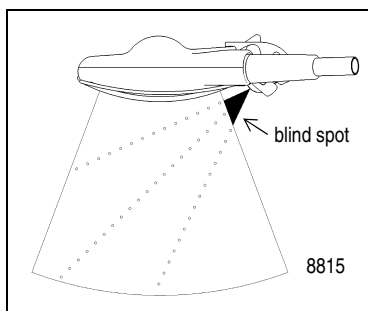

Fig. 7. Illustration showing the puncture line and blind spot (See 3rd “WARNING” on page 12)
The puncture line pattern is shown in Fig. 7. The distance between the guide channel of the needle guide to the first dot on the scan image puncture line is 12-15mm depending on which angle is chosen. The distance between the dots is 5mm.
The puncture line pattern is shown in Fig. 7. The distance between the needle channel of the needle guide to the first dot on the scan image puncture line is 12-15 mm depending on which angle is chosen. The distance between the dots is 5 mm.
*The 8515-S and 8815 transducers cannot monitor the first 1.2-1.5 cm of the puncture line (the blind spot, see Fig. 7.). Extra care should be taken during insertion until the needle tip echo can be seen on the image.*